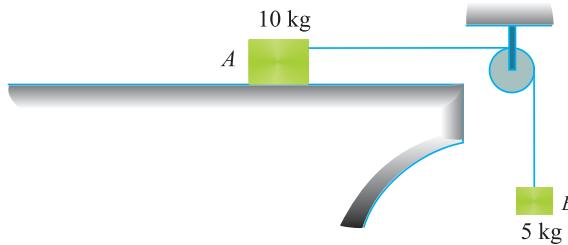

Fig. 25.5.
**Example 25.4.** Find the acceleration of a solid body A of mass 10 kg, when it is being pulled by another body B of mass 5 kg along a smooth horizontal plane as shown in Fig. 25.5.